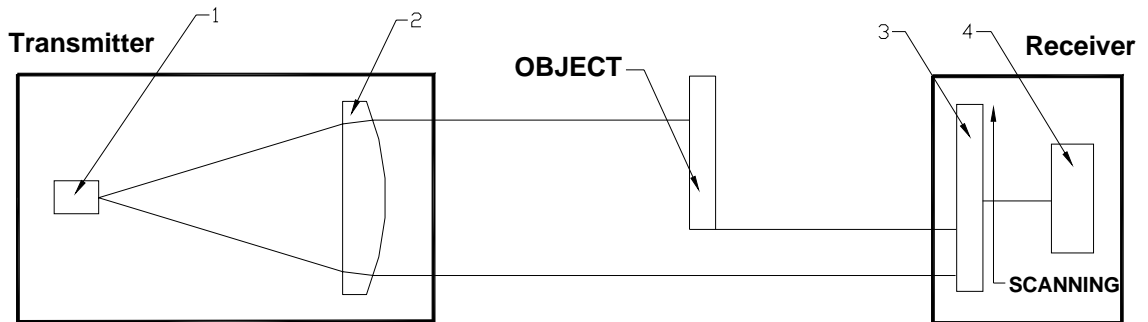

Figure 1.
4.1. The micrometer operation is based on the so-called ‘shadow’ principle, Fig.1. The micrometer consists of two blocks – transmitter and receiver. Radiation of a semiconductor laser 1 is collimated by a lens 2. With an object placed in the collimated beam region, shadow image formed is scanned with a CCD photo-detector array 3. A processor 4 calculates the position (size) of the object from the position of shadow border (borders).